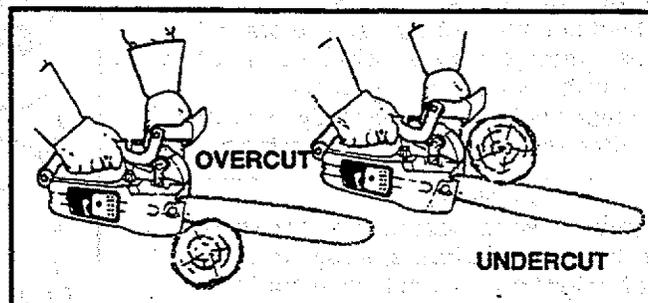

Figure 30
2. TYPES OF CUTTING USED Figure 30.